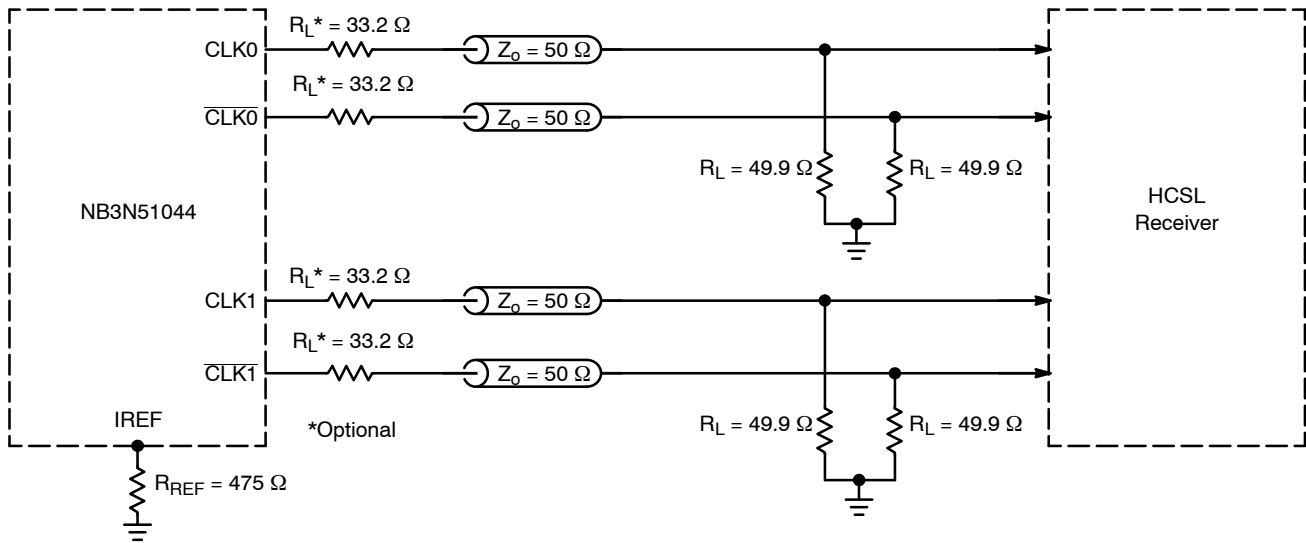

Figure 9. Typical Termination for HCSSL Output Driver and Device Evaluation
4. Measurement taken with outputs terminated with $R_S = 33.2 \Omega$, $R_L = 49.9 \Omega$, with test load capacitance of 2 pF and current biasing resistor set at $R_{REF} = 475 \Omega$. See Figure 9. Guaranteed by characterization.
12. Measurement taken from differential output on single-ended channel terminated with $R_S = 33.2 \Omega$, $R_L = 49.9 \Omega$, with test load capacitance of 2 pF and current biasing resistor set at $R_{REF} = 475 \Omega$. See Figure 9. Guaranteed by characterization.
18. Measurement taken from differential output on single-ended channel terminated with $R_S = 33.2 \Omega$, $R_L = 49.9 \Omega$, with test load capacitance of 2 pF and current biasing resistor set at $R_{REF} = 475 \Omega$. See Figure 9. This parameter is guaranteed by characterization. Not tested in production.
The outputs can be terminated to drive HCSSL receiver (see Figure 9) or LVDS receiver (see Figure 10). HCSSL output interface requires 49.9 Ω termination resistors to GND for generating the output levels. LVDS output